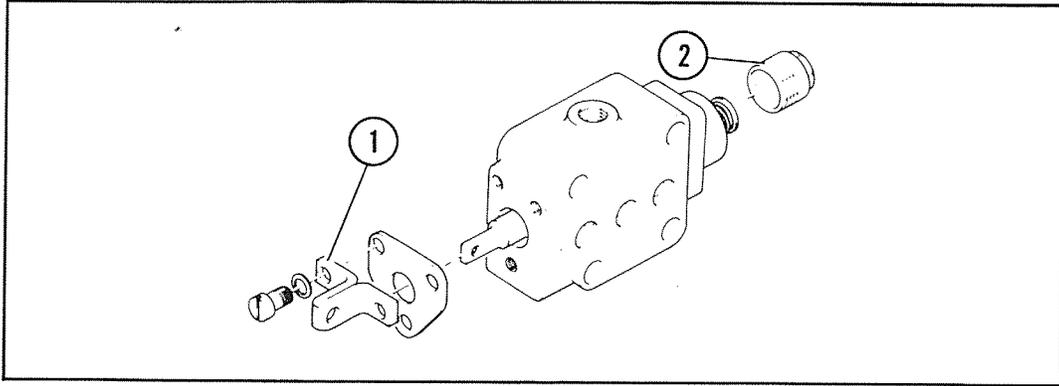

Figure 9
3. Remove the bolt and remove the bracket (1), Figure 9.
4. Remove the plug (2), Figure 9.